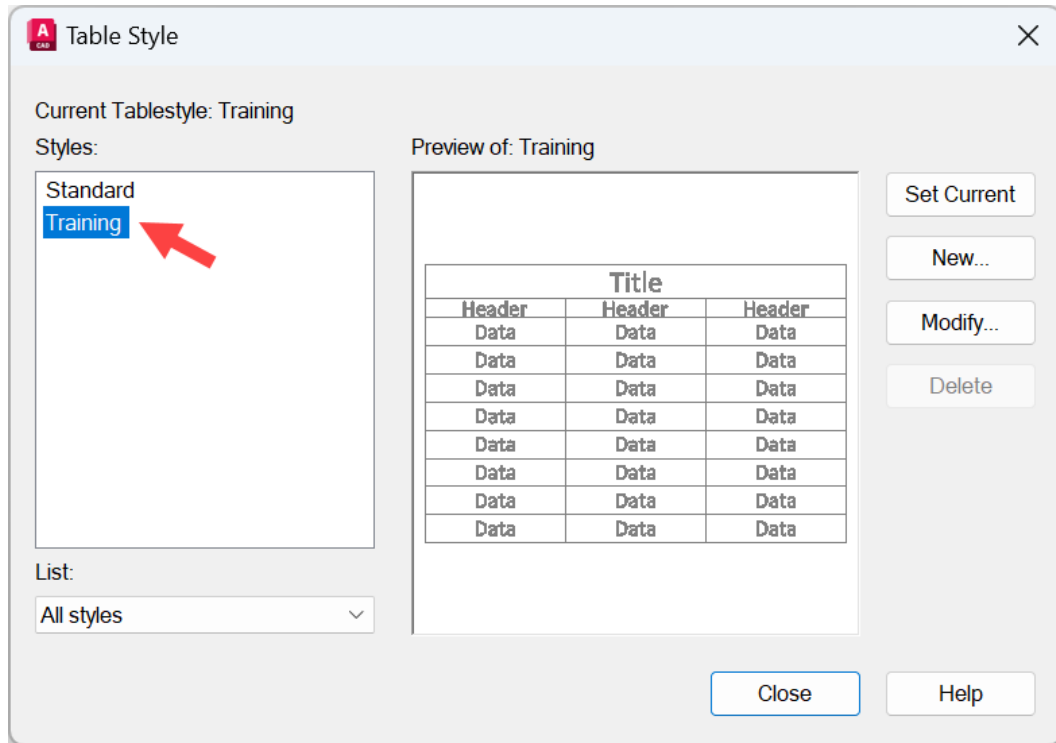

Figure 7.43: The new table style in the Table Style dialog box
23. In the **Table Style** dialog box, you will see the new **Training** table style. Select it in the left-hand pane (see *Figure 7.43*) and click on **Set Current**. It is now the current table style in the drawing.